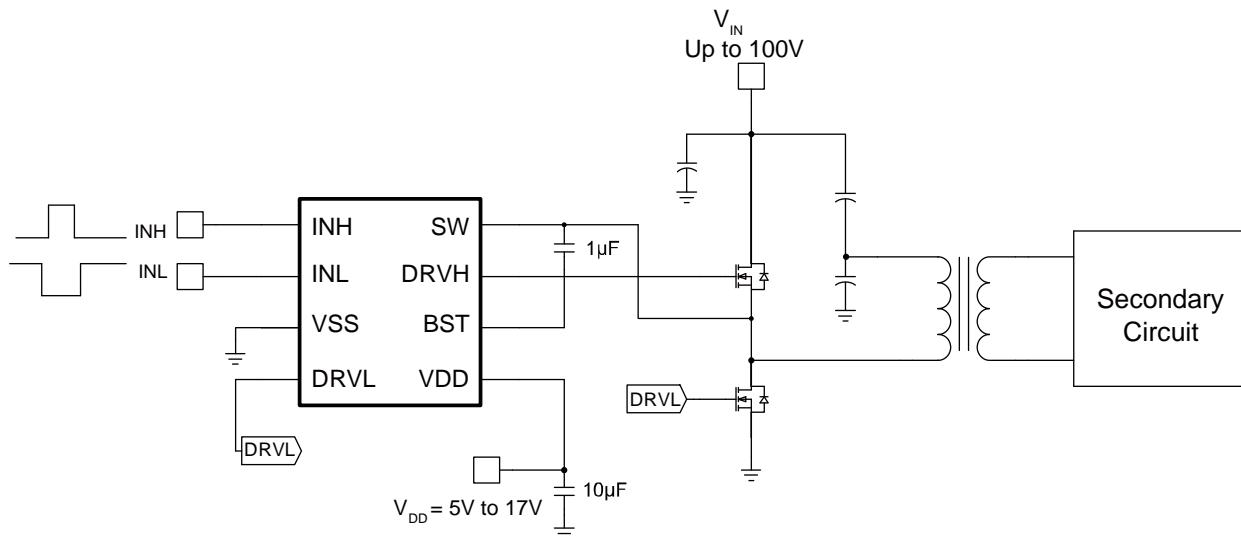

Figure 5: Typical Application Circuit (Half-Bridge Converter Topology)
In a half-bridge converter topology, the high-side MOSFET (HS-FET) and low-side MOSFET (LS-FET) are driven alternately with a dead time (DT) inserted between their respective on periods. INT and INL are driven with alternating signals via the pulse-width modulation (PWM) controller. The input voltage (V_{IN}) can rise up to 100V when in a half-bridge topology (see Figure 5 in the Typical Application Circuits section on page 16).